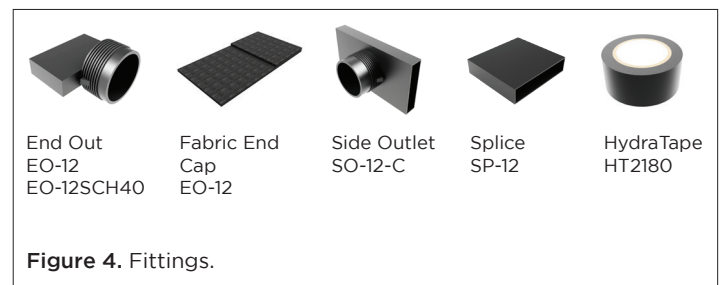

Figure 4. Fittings.
- Install proper fittings and use HydraTape to ensure a solid connection (See Figure 4).